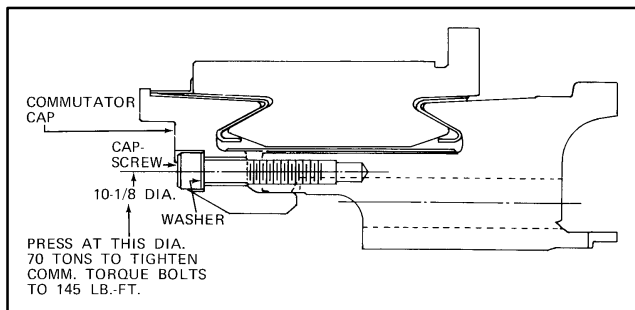

FIG. 26. COMMUTATOR PRESSING DIAMETER. E-18140
3. Place the armature in a vertical press. Position ball and socket tool (Part 41C685080G1) and crow-foot pressing fixture (Part 41C685430G1) on the commutator, and apply 70 tons pressure at the diameter shown on Fig. 26.